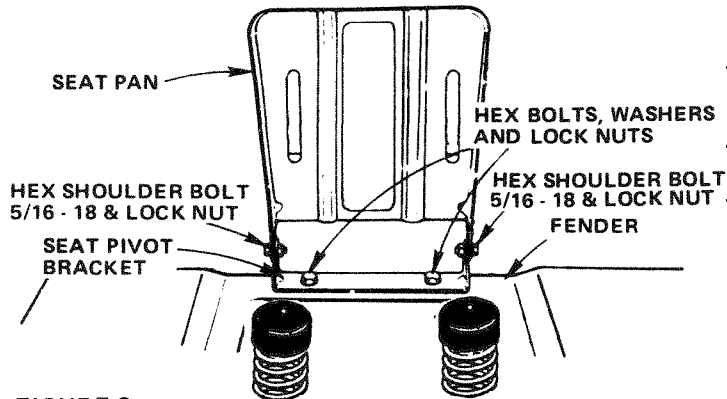

FIGURE 2
1. Mount Seat Pivot Bracket to Fender using two Hex Bolt 3/8 - 16 x 3/4, two Washers 13/32 x 3/4 x 10 Ga, and two Crownlock Nuts 3/8 - 16 (Fig. 2). NOTE: WASHER SHOULD BE POSITIONED UNDER FENDER NEXT TO NUTS. Seat Pivot Bracket, Bolts, Washers and Nuts found in Bag of Parts. Tighten Nuts securely.
2. Mount Seat Pan to Seat Pivot Bracket using two Shoulder Bolts 5/16 - 18 and two Lock Nuts 5/16 - 18 (Fig. 2) (heads of Bolts to outside). Bolts and Lock Nuts found in Bag of Parts. Tighten Nuts securely.